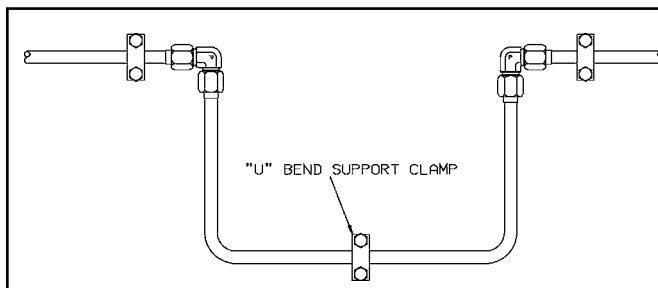

Fig. A22 — U-Bend Allowing Expansion and Contraction
- **Allow for expansion and contraction** — Use a "U" bend or a hose in long lines to allow for expansion and contraction. (See Figure A22.)